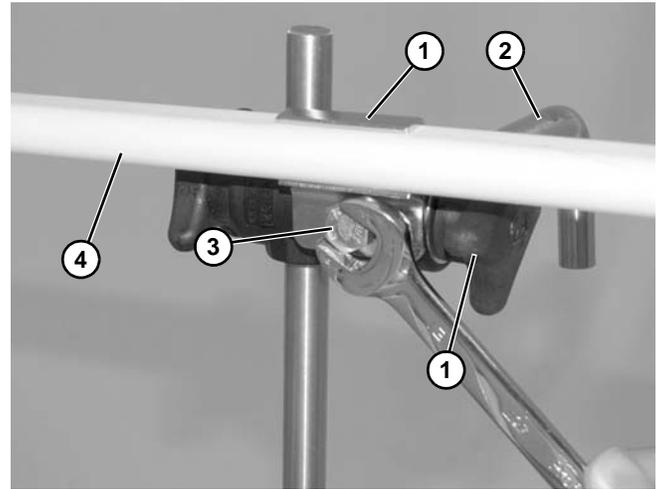

Figure 25
3. Attach rail clamps (**Figure 25, item 1**) to post guide (**Figure 25, item 2**) with hex head screw (**Figure 25, item 3**). Hand tighten only at this time.
4. Insert guide (**Figure 25, item 4**) into the rail clamps (**Figure 25, item 1**).